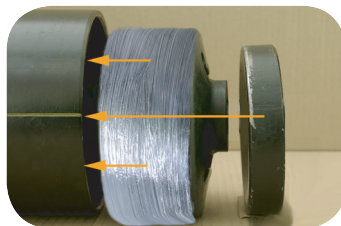

Fig. 12 · Installing the drive disc
5. Push the pivot bushing (7) and the drive disc (8) completely into the receiver tube (5) as shown in Fig. 12.